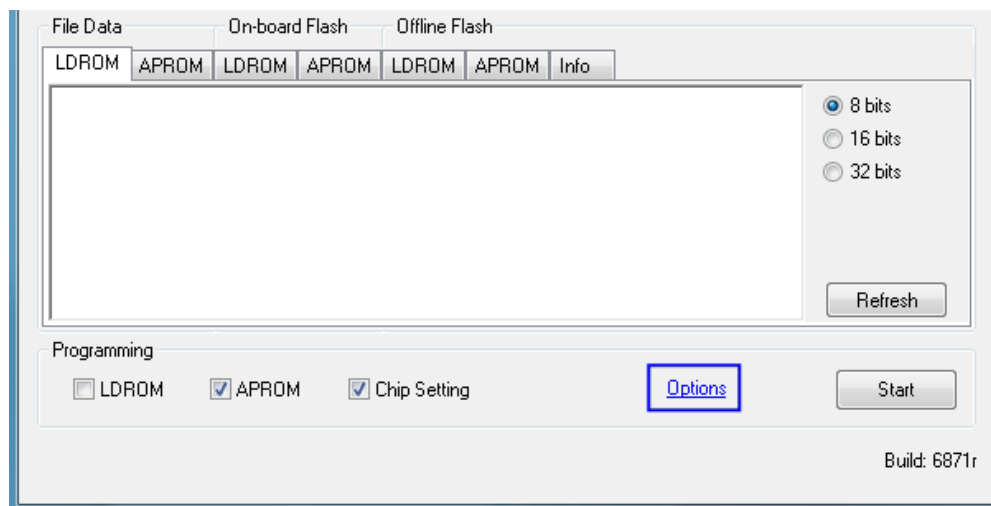

Figure 4-2 Programming Setting
- Click “**Options**” button to enter the programming setting page, as shown in Figure 4-2.